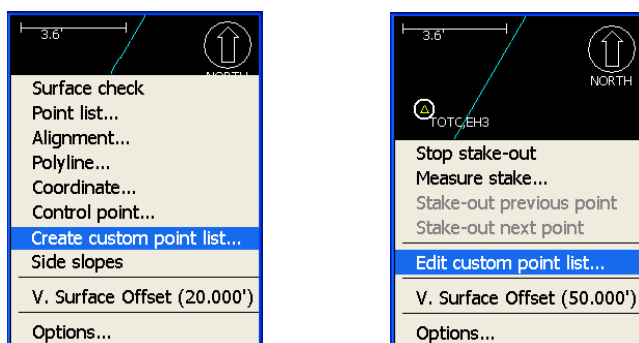

Figure 7-23. Create/Edit Custom Point List
1. To create a custom point list, tap **Survey ► Stake-out ► Create custom point list** (Figure 7-23).